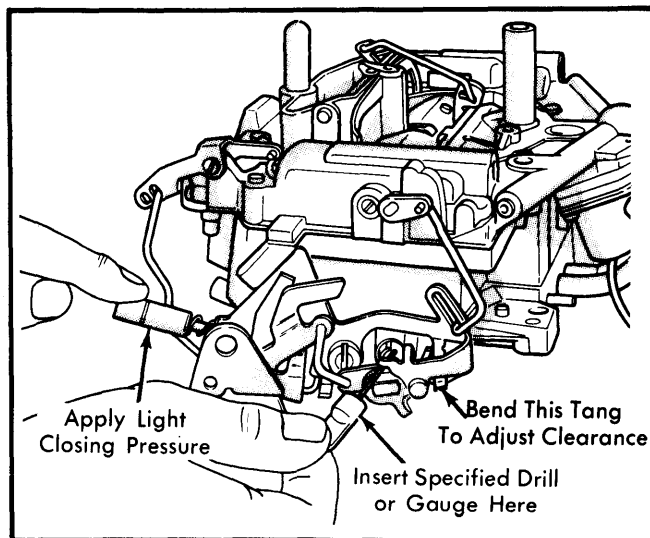

Fig. 12 Adjusting Secondary Throttle Lockout
1) Move fast idle control lever to wide open choke position. Measure specified clearance between lockout lever and stop. Clearance can be checked using a specified drill or pin gauge. See Fig. 12.